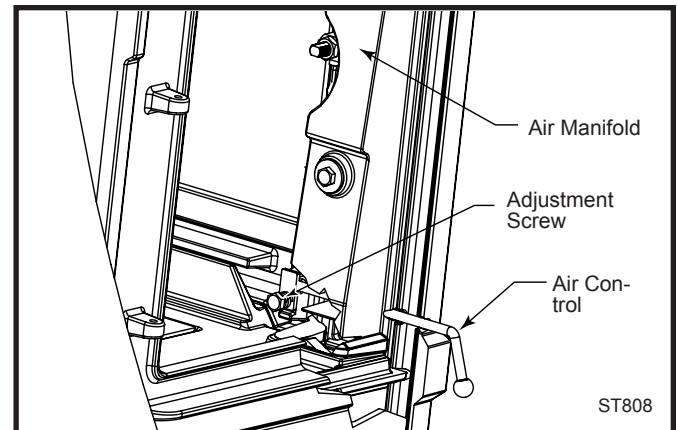

Fig. 38 Primary air control adjustment.
Over time, the air control may tighten or loosen. To adjust the tension on the control, let the stove cool to room temperature. Open the side-loading door and look in toward the inner side of the front panel of the stove. (Fig. 38) Locate the lower hex head bolts (A) on the primary air manifold rods on either side of the door. Adjust with a 7/16" wrench.